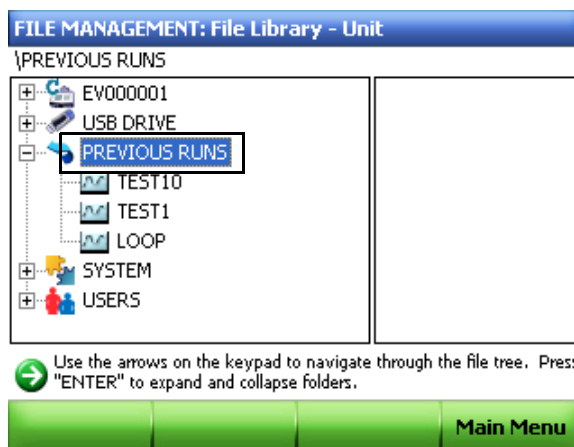

Figure 15. The PREVIOUS RUNS folder.
- **PREVIOUS RUNS** folder — contains a list of all previously run protocols (Figure 15)